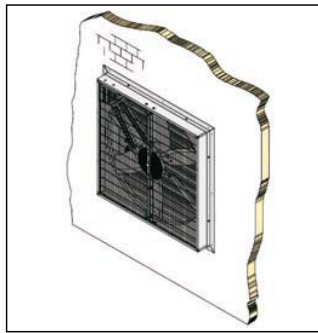

Fig.3
- If it is necessary to use foam, introduce the expansion product between the support and the extractor chassis along a line of maximum 20cm from the edge, as shown in **Figure 3**.